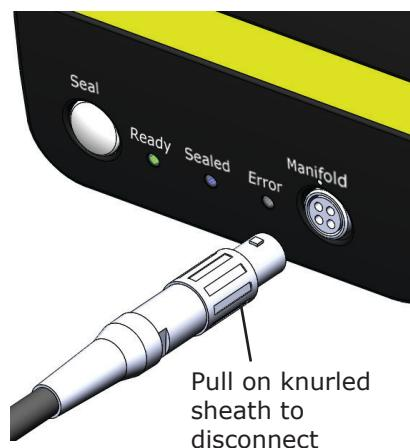

Figure 7. Connecting the manifold plug
5. If the temperature controlled CellASIC® ONIX2 Manifold XT is being used, you must also connect the 4-conductor plug from the manifold. Align the red mark on the top of the plug to the dot on the front panel and push the plug into the socket labeled **Manifold** (Figure 7) on the front of the system. The plug can be removed by pulling on the sheath; be sure to grab only the knurled sheath when pulling to disconnect.